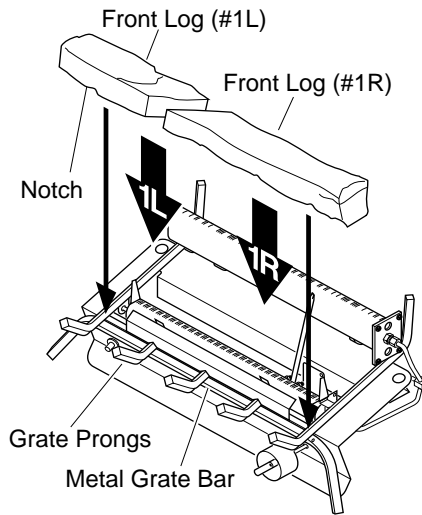

Figure 16 - Installing Front Logs (#1L and #1R)
1. Place front log (#1L and #1R) on top of the grate. Make sure the notches in the bottom of the logs fit over the grate prongs (see Figure 16). Push back of logs flush with metal grate bar. *Note:* 18" model only has one front log.